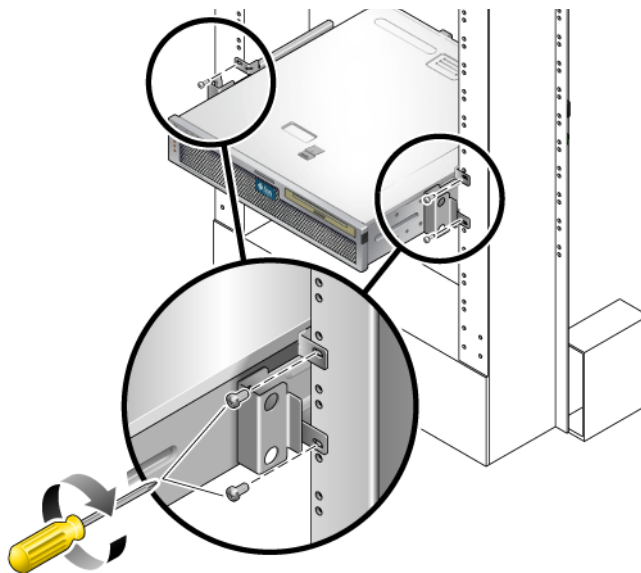

FIGURE 3-10 Installing and Securing the Server in the 2-Post Rack
4. Using two screws for each bracket, secure the front of the server to the front of the rack (FIGURE 3-10).